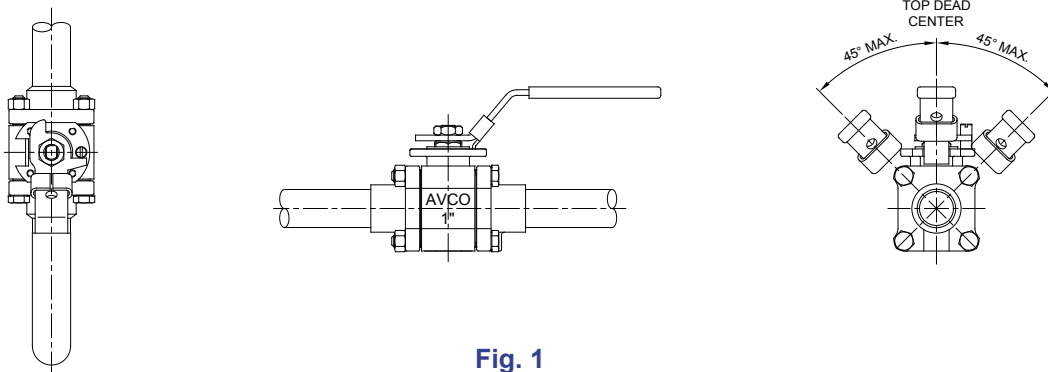

Fig. 1
- 5.6 AVCO advises, that where an actuator is used, the valve be installed as shown in fig. 1 and as described in paragraph 1.2 for optimal use and life span.